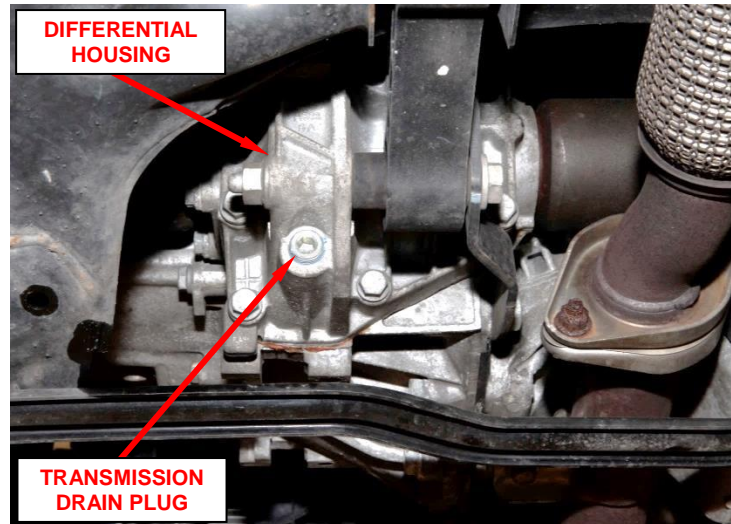

Figure 32 – Transmission Drain Plug
28. Remove the transmission drain plug and allow the transmission fluid to drain (Figure 32).
NOTE: The drain plug is located on the lower right side of the transmission differential housing (Figure 32).
29. Install the transmission drain plug and tighten the plug to 18 N·m (13 lb ft.) (Figure 32).